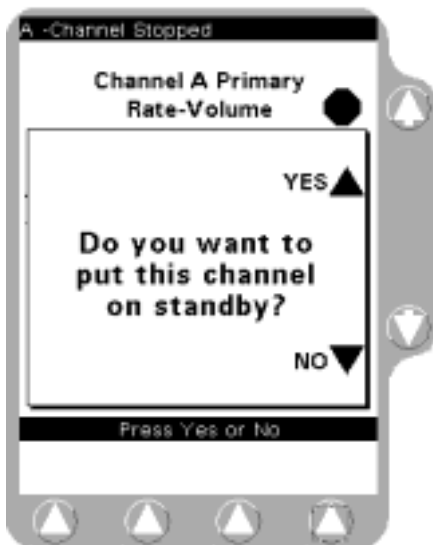
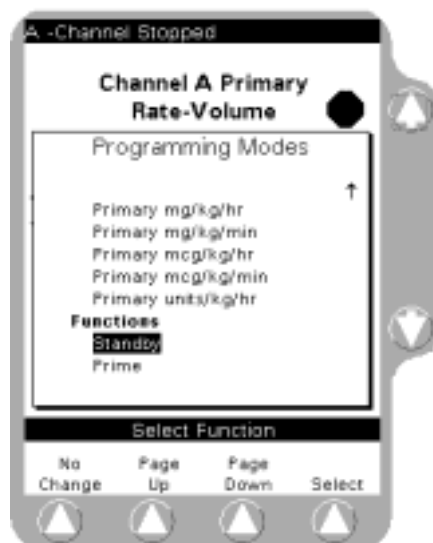

Figure 5-32 Standby Pop-Up
Figure 5-33 Programming Modes Menu
2. Press the **Channel Select** key again to deselect the pump channel and bring up the Standby pop-up window (Figure 5-32).
3. Press the **Change Mode** soft key. The Programming Modes menu is displayed (Figure 5-33).
4. From the Programming Modes screen (Figure 5-33), use the  $\uparrow\downarrow$  keys to select Standby and press the **Select** soft key. The Standby pop-up (Figure 5-32) is displayed. The programmed infusion information is retained.
2. Enter the program information then press the **Channel Select** key again to deselect the pump channel and bring up the Standby pop-up window (Figure 5-32).